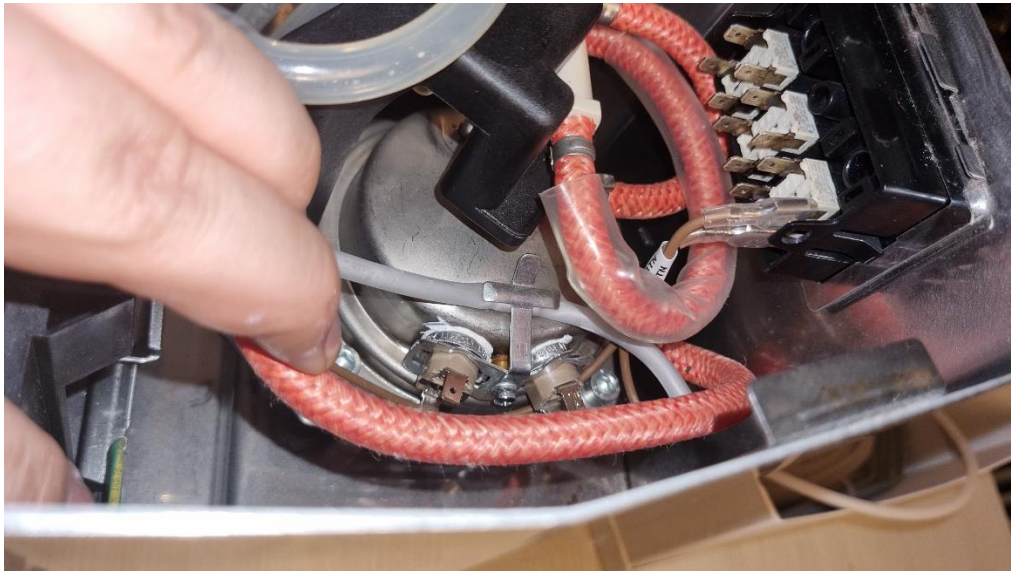

Fig.9.2
- Cut the hose with a scissors (fig. 9.2). insert the hose all the way into the upper pipe.
- The brown wire from the green plug need to go to the power button with the overheat protection passing over the boiler. Insert the temperature protection under the clamp (fig.9.2).